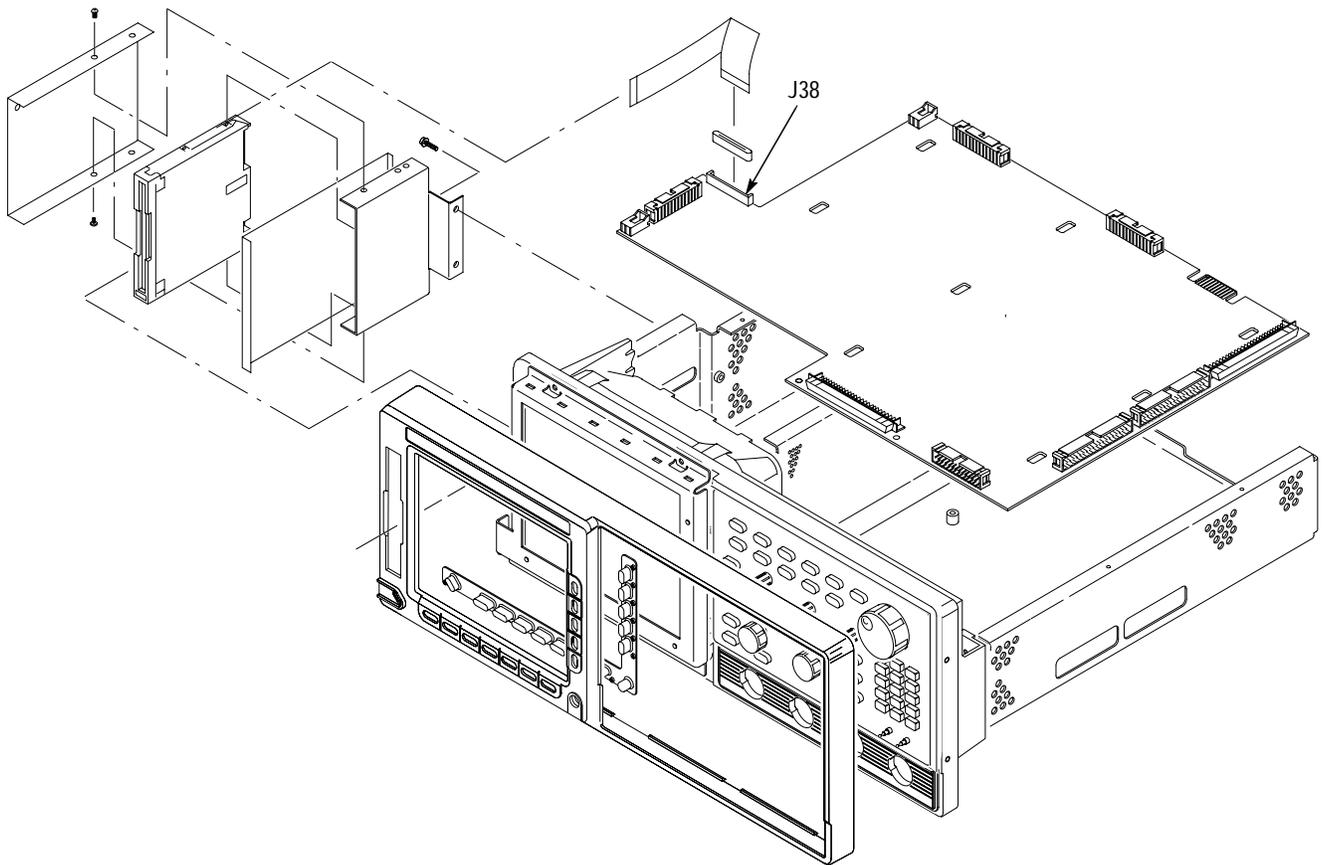

Figure 6-19: Floppy disk removal
4. *Remove the floppy disk:* Use Figure 6-19 as a guide.